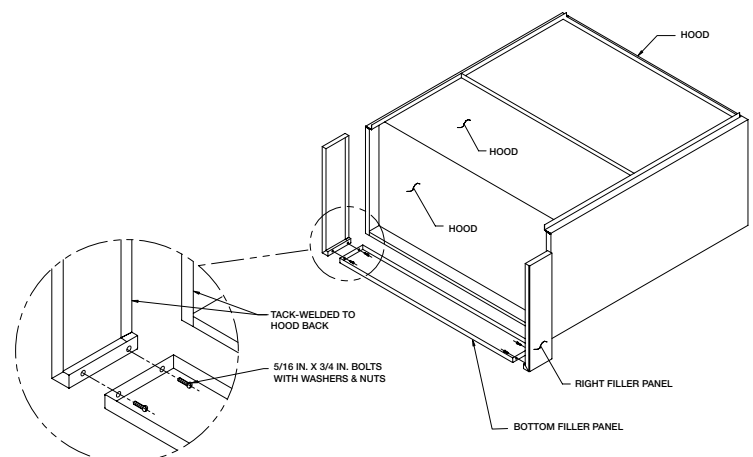

Fig. 2
the crate to avoid damaging the hood as it is tipped on its side; Fig. 1. Tip the hood carefully onto the protective material. If you have filler panels, install them now; Fig. 2. If you have integral filler panels, no additional installation is needed.
3. Position the filler panels to the hood back, and tack-weld them into place. (Fig. 2)